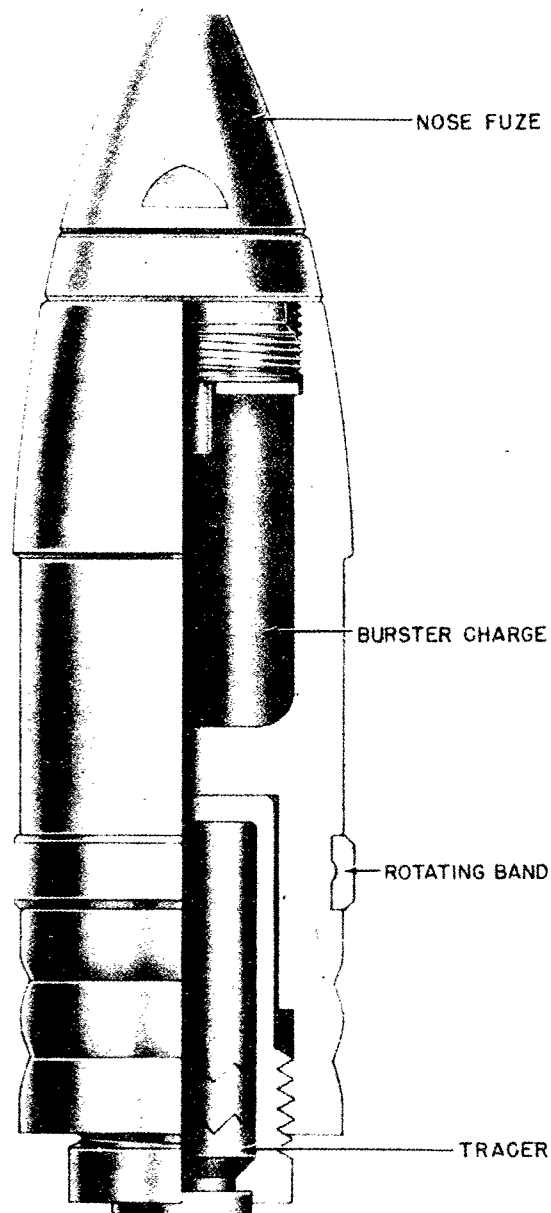

Figure 359—H. E. Projectile for Gun C/30, 37-mm, 3.7-cm Sprgr. Patr. C/30
**GERMAN NOMENCLATURE:** 3.7-cm. Sprgr. Patr. C/30 (Sprenggranate Patronen 30). (See fig. 359.)